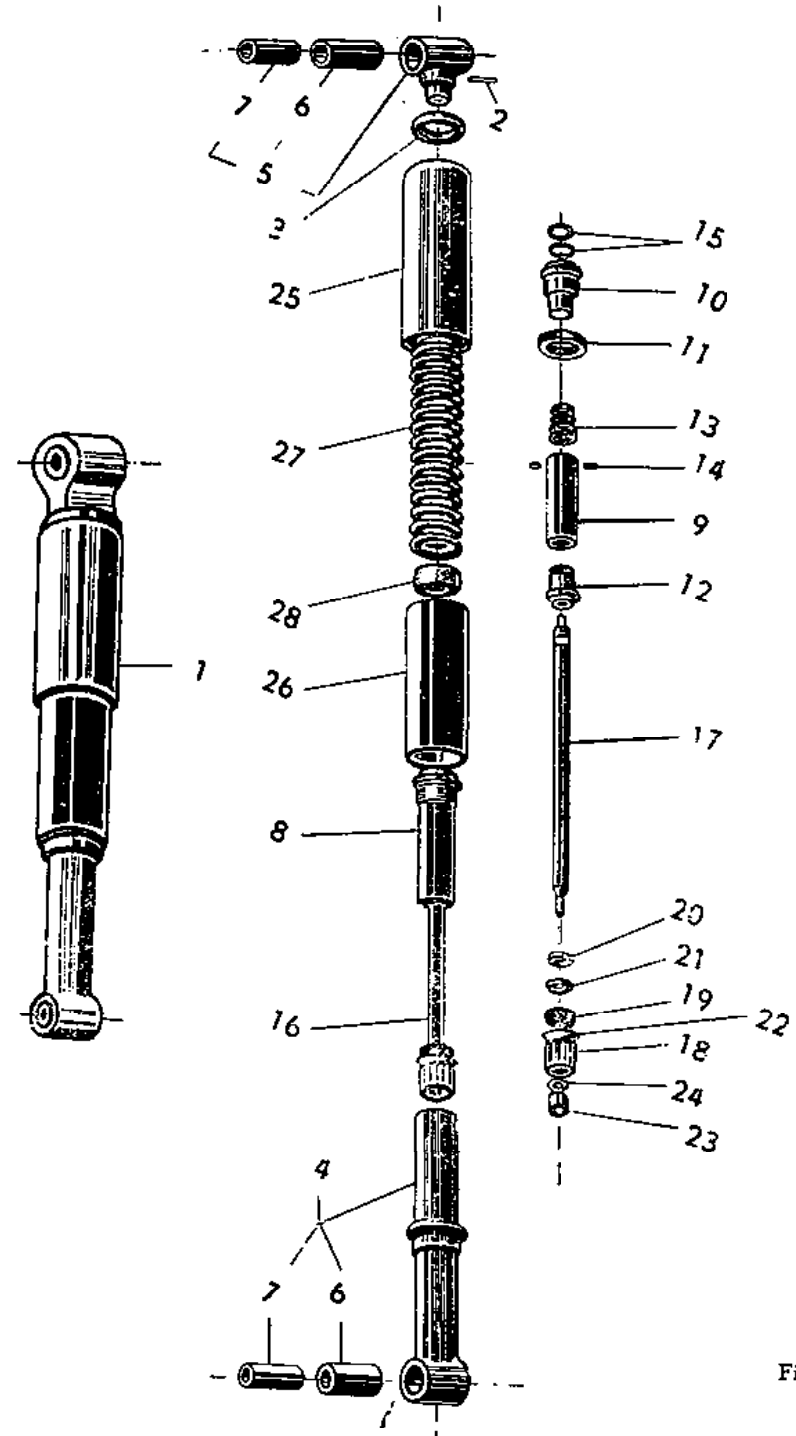

Fig. 11
17. Dismantling the rear telescopic shock absorbers (fig. 11)